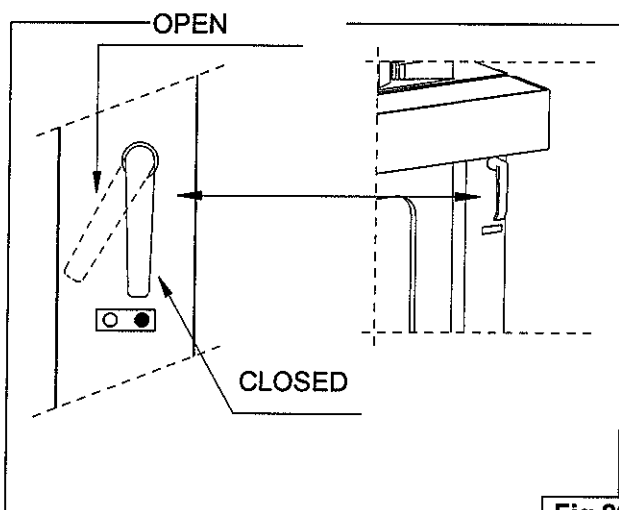

Fig.29
Close and lock the door; close the manual lock on the steam box (**Fig. 29**); set a temperature of 60°C and switch on the fan ; press the START button . The set of elements starts to operate and after a few minutes, when it reaches the temperature set, it should go off.
- Ascertain that the correct temperature is set on the thermoregulator ①
- Open the manual steam vent as shown in Fig. 29